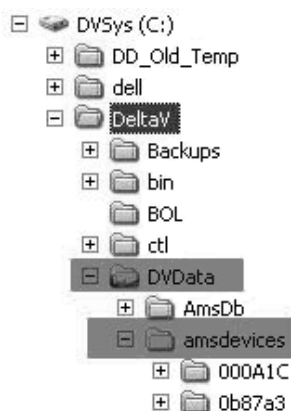

Figure E-2. amsdevices folder
- **For the DVC6000f**—The device type parameter for this unit is 4602. This device includes the AO, PID, ISEL, OS, AI, MAI, DO and DI function blocks. From DeltaV Explorer, select the amsdevices\005100\4602 folder (refer to figure E-2).